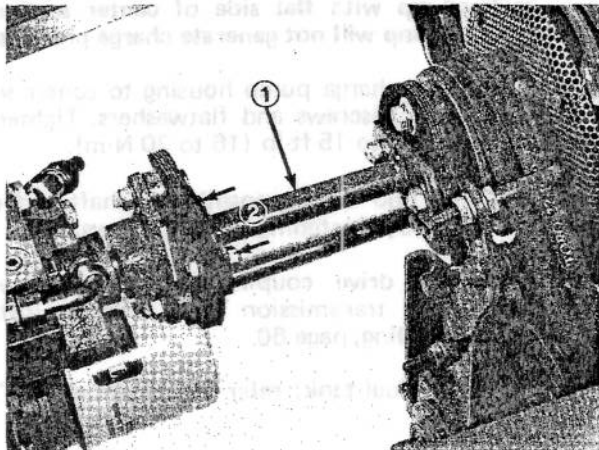

Figure 125
2. Remove capscrews, locknuts and spacers securing drive coupling assembly between engine pulley and transmission hub (Fig. 125). Slide drive coupling assembly from between the hub and pulley.
2. Slide two capscrews through transmission hub and install locknuts onto the capscrews (Fig. 125). Tighten capscrews and locknuts.
3. Secure other end of rubber coupling to engine pulley with capscrews, lockwashers and flatwashers (Fig. 125).